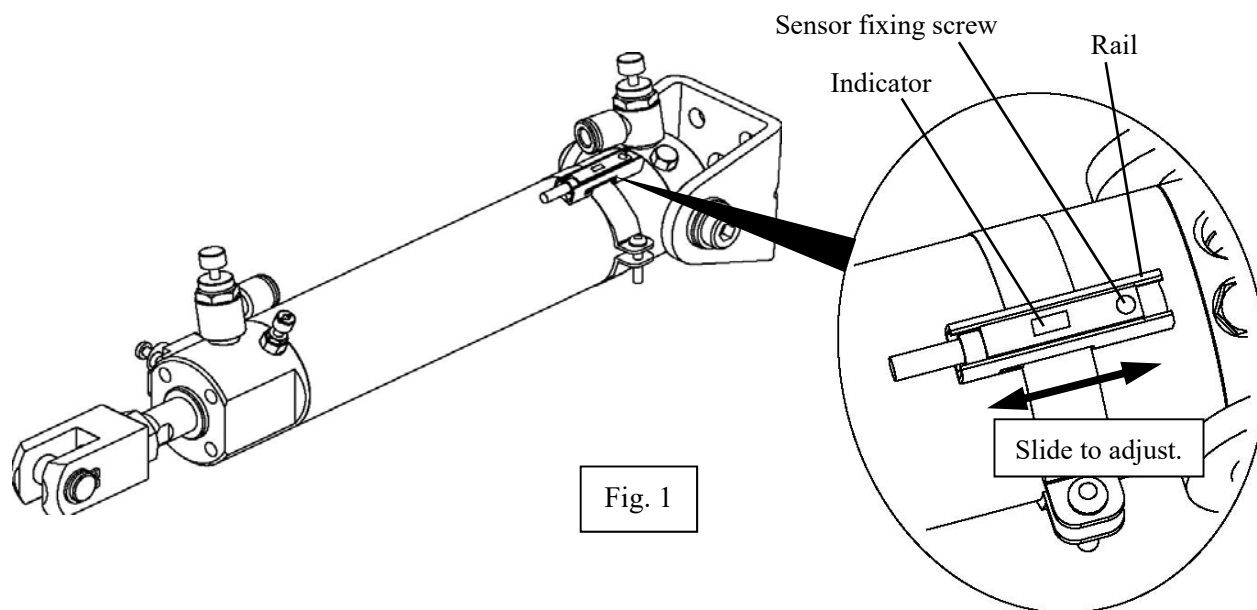

Fig. 1
- (3) Place a white paper sheet on a line connecting front input clamp arms of the left and right film clampers. (Fig.1)
- (4) Push the "SET" button on the sensor once more.
3. Slide the sensor on the rail, determine a range in which the red lamp of the sensor lights, position the sensor in the center of the range, and tighten its fixing screw. (Fig.1)